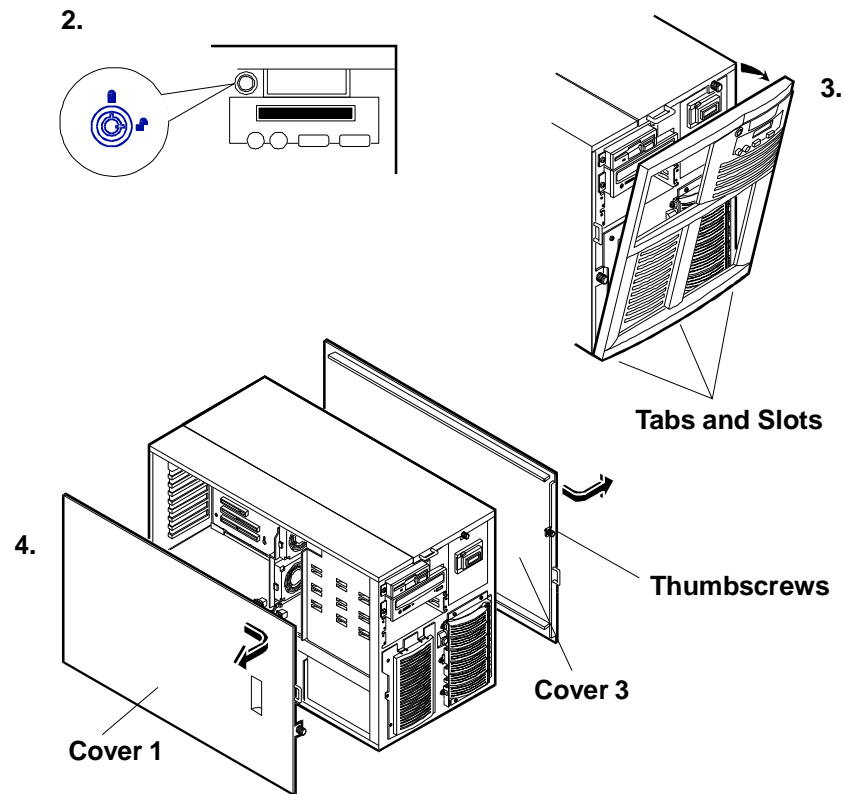

Figure 1-1. Removing the Covers (HP NetServer LH 3)
1. Unlock the bezel lock with the key from the key bag located on the rear of the HP NetServer (see Figure 1-1).
3. Loosen the thumbscrew at the front of covers 1 and 3 and pull the covers forward, using the handle on the covers, and then lift them off the chassis (see Figure 1-1).